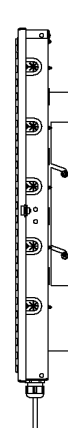

Figure 2
2. Loosen four side nuts and hang the terminal on installation bracket. Tighten side nuts to secure it to the bracket (Figure 2).